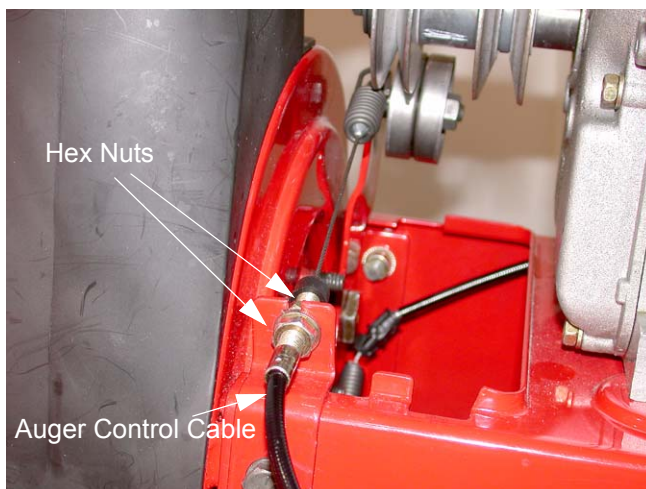

Figure 16.1
- 16.1. Using two 7/16" inch wrenches loosen the two hex nuts attaching the auger control cable to the bracket on the left hand drive housing. See Figure 16.1.